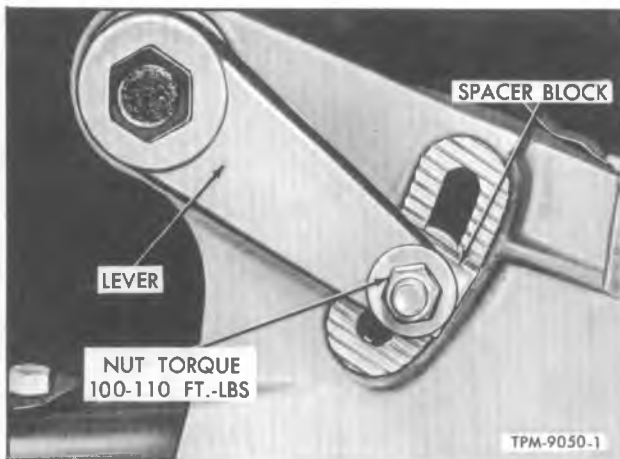

Figure 33—Torsion Bar Tension Adjustment Lever Installed
**NOTE:** Lever should be located on bar so that opposite end of anchor lever is located near center of serrations on cab bracket (fig. 33).
bracket (fig. 33). Loosen nut only enough for spacer to clear serrations.